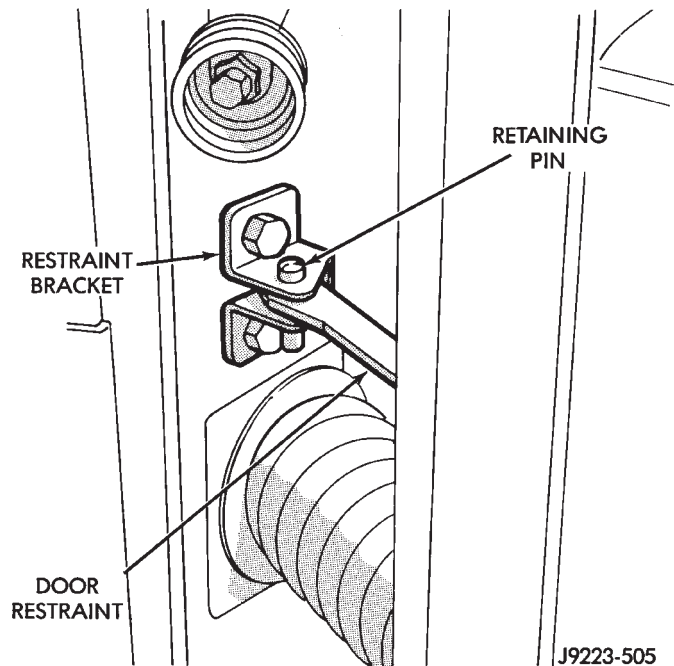

Fig. 24 Door Restraint Retaining Pin
(1) Remove the door restraint (check) retaining pin (Fig. 24) with a punch.